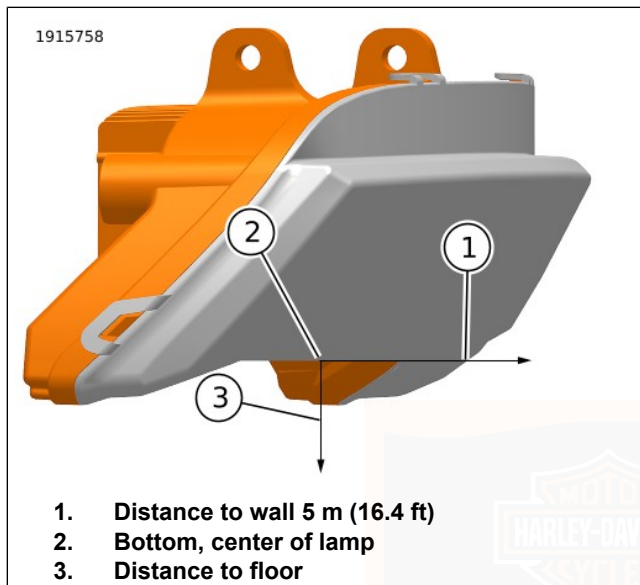

Figure 79. Headlamp Alignment Measuring Points
2. Figure 79 Set motorcycle to the specified distance from bottom center of headlamp (2) to distance to wall (1).
- b. With intended rider on motorcycle, measure distance from bottom center of lamp (2) to floor (3).